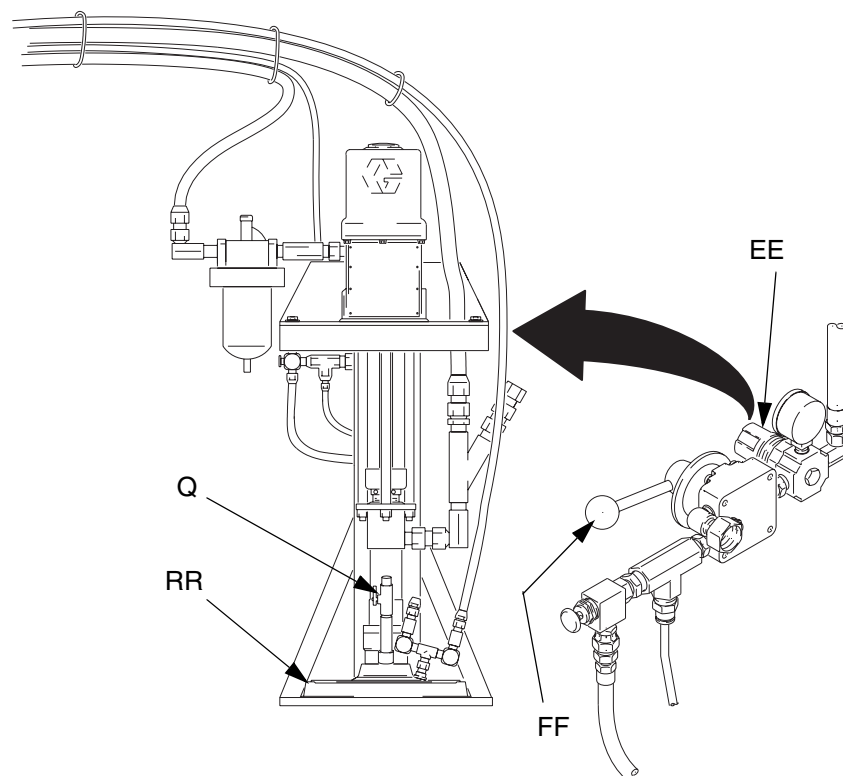

FIG. 16
2. Set the pail ram air regulator (EE) to 40 psi (0.28 MPa, 2.8 bar), FIG. 16.
3. Push the ram directional lever (FF) to the UP position and let the ram rise to its full height.
5. Set the pail on the ram base. Slide it back toward the ram tube and supports and center it under the wiper plate (RR). To prevent air from being trapped